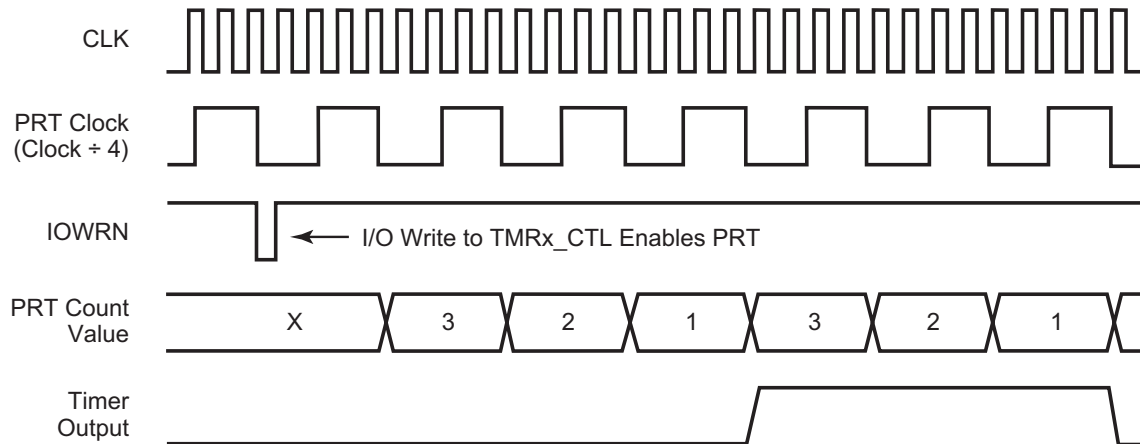

Figure 22. PRT Timer Output Operation Example
Two of the Programmable Reload Timers (Timers 4 and 5) can be directed to GPIO Port B output pins (PB4 and PB5, respectively). To enable the Timer Out feature, the GPIO port pin must be configured for alternate functions. After reset, the Timer Output feature is disabled by default. The GPIO output pin toggles each time the PRT reaches its end-of-count value. In CONTINUOUS mode operation, the disabling of the Timer Output feature results in a Timer Output signal period that is twice the PRT time-out period. Examples of the Timer Output operation are illustrated in Figure 22 and Table 33. In these examples, the GPIO output is assumed to be Low (0) when the Timer Output function is enabled.